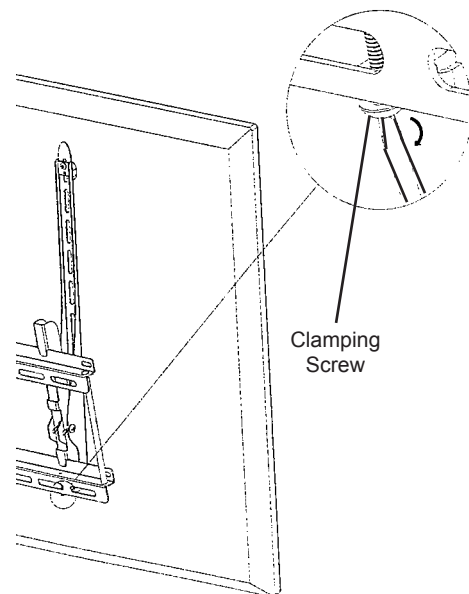

Figure 6
7. Tighten the two clamping screws leaving about an eighth of an inch space. See Figure 6.